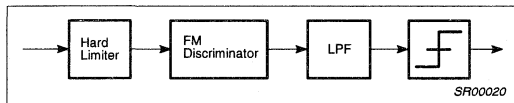

**Figure 2. I/Q Implemented GMSK Modulator**
The quadrature modulator is based on Equation (2). The implementation of such a GMSK modulator is shown in Figure 2. The incoming data is used to address two separate ROMs which contain the sampled versions of all possible phase trajectories within a given interval. After D/A conversion, the output of each ROM is applied to the I/Q modulator. The output is the GMSK modulated signal. This implementation scheme provides an exact modulation index of 0.5, which allows coherent detection.